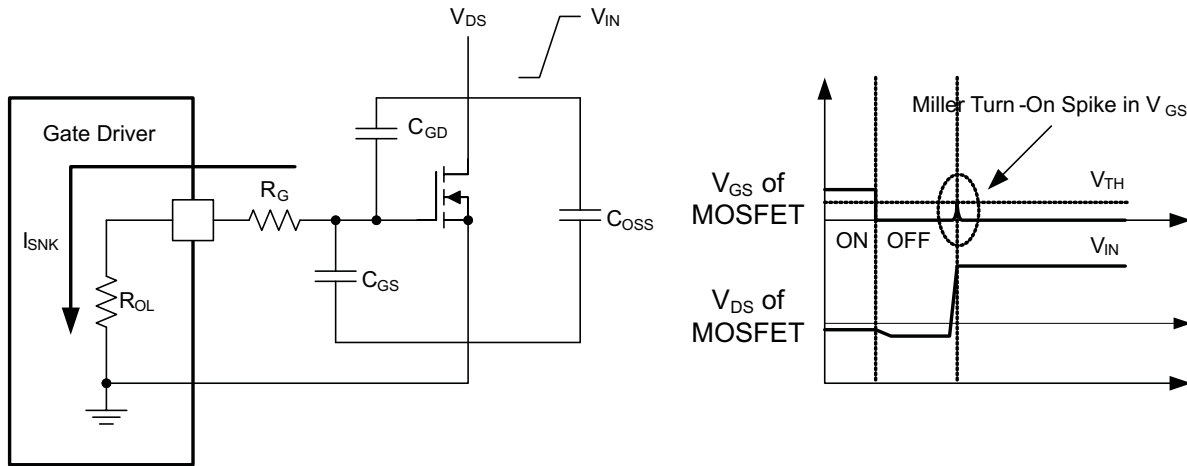

Figure 39. Low Pull-Down Impedance in UCC2753x (Output Stage Mitigates Miller Turn-On Effect)
An example of a situation where Miller turnon is a concern is synchronous rectification (SR). In SR application, the dV/dt occurs on MOSFET drain when the MOSFET is already held in OFF state by the gate driver. The current charging the C_{GD} Miller capacitance during this high dV/dt is shunted by the pull-down stage of the driver. If the pull-down impedance is not low enough then a voltage spike can result in the V_{GS} of the MOSFET, which can result in spurious turnon. This phenomenon is illustrated in Figure 39.